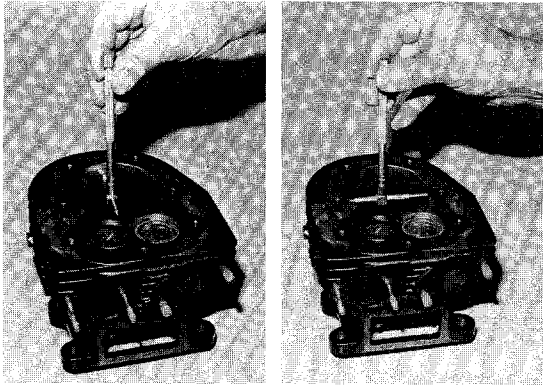

Figure 6-16
2. Measure cylinder bore $\frac{1}{2}$ in. from TOP of bore, measuring from front to rear, then left to right, (4 point measurement). Record the measurements (**Figure 6-16**).